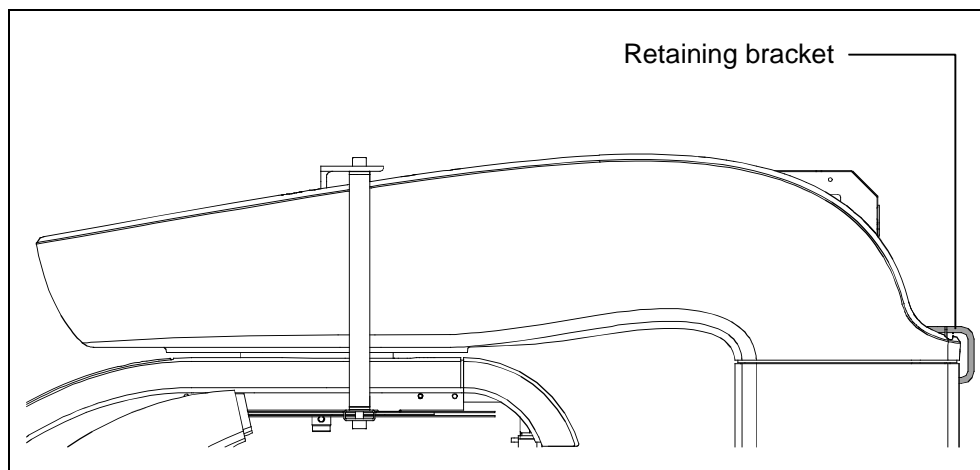
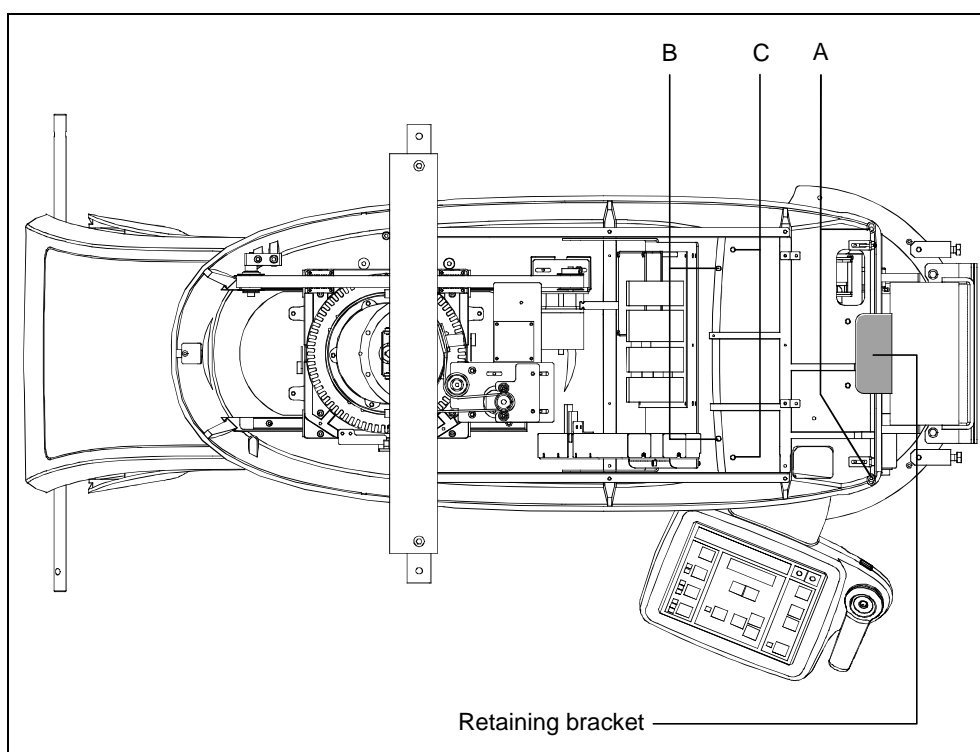

Figure 6-5
Figure 6-6
4. Position the rotating arm on the column inserting it in the retaining bracket (Figure 6-5). While a person keeps it in position, the other has to fix the two backside screws "A" (Figure 6-6) to the column without tightening them.
6. Insert the reference pins "B" (Figure 6-6) between the rotating arm and column using a hammer. Insert the remaining two screws "C" (Figure 6-6) and tighten all the fixing screws.